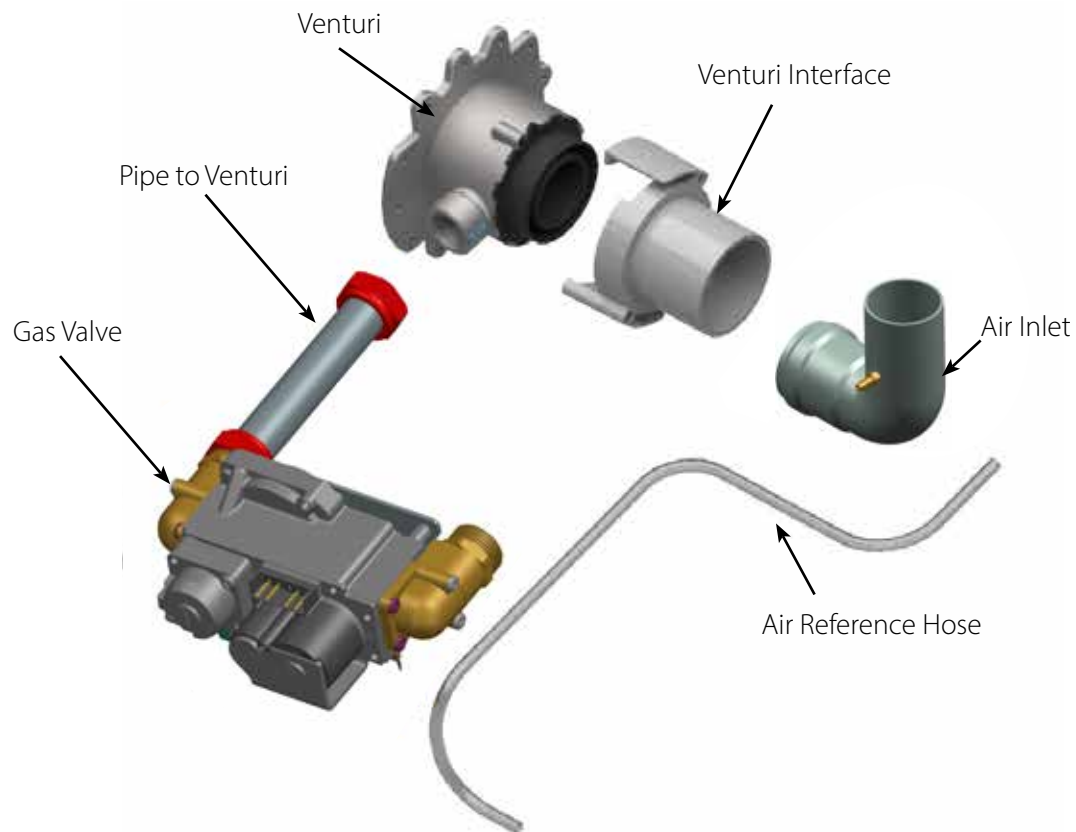
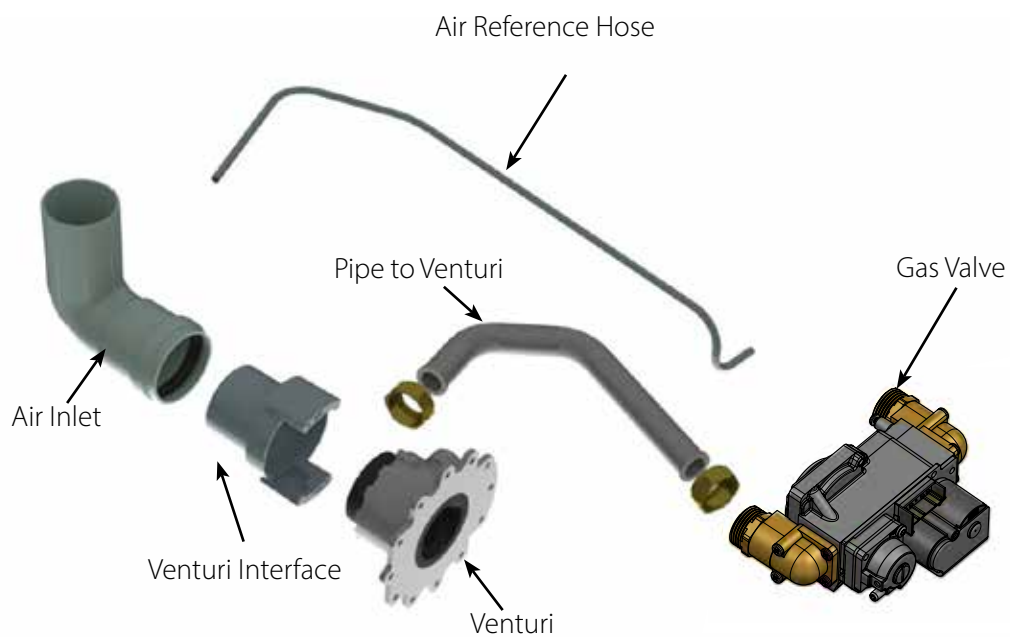
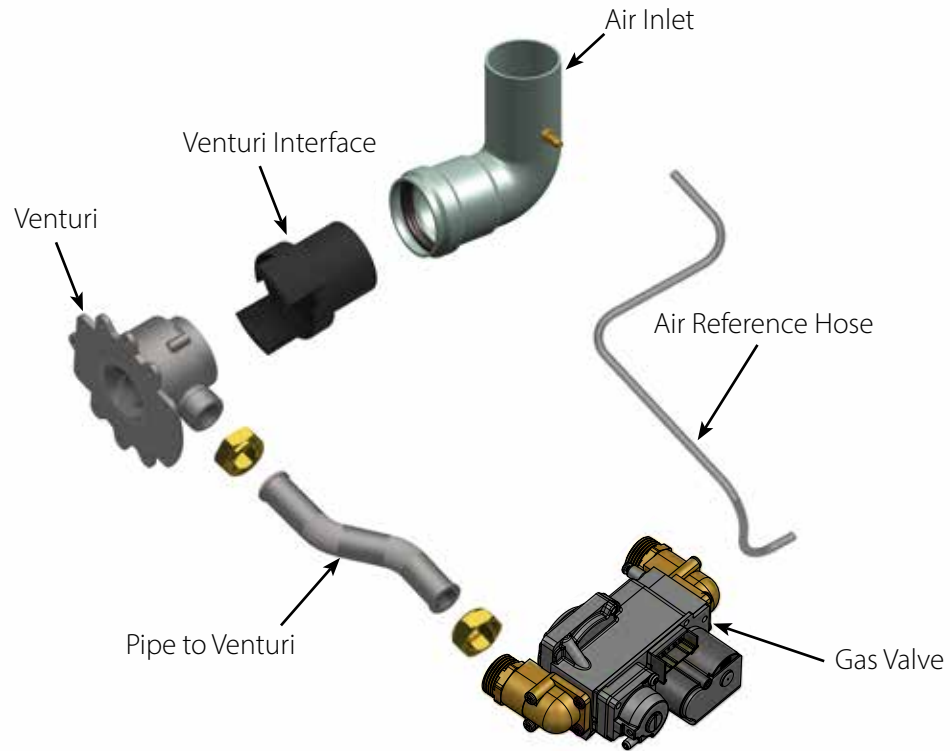

Fig. 25 - Gas Valve / Venturi Assembly - EXALT Heat Only 110
Fig. 26 - Gas Valve / Venturi Assembly - EXALT Heat Only/Combi 155
Fig. 27 - Gas Valve / Venturi Assembly - EXALT Heat Only/Combi 199
- Prior to start up, ensure the unit is set to fire propane. Check the rating label for the type of fuel. Check the venturi for propane conversion label. If there is a conflict or doubt on the burner configuration, remove the venturi and check for proper propane gas orifice sizing on venturi labeling. Refer to Tables 1 and 3 below. See Fig. 25, Fig. 26 & Fig. 27 for venturi location. Refer to Propane Conversion Instructions for proper removal and replacement of the venturi.